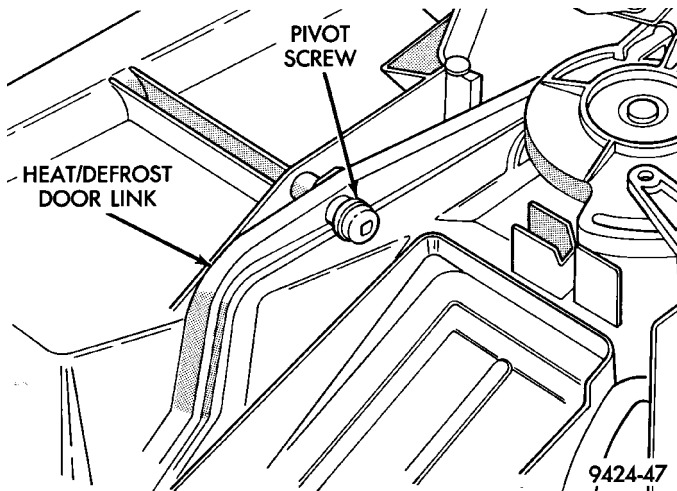

Fig. 54 Pivot Screw Removal
(10) Remove the Heat/Defrost link pivot screw (Fig. 54).
(11) Lift the Heat/Defrost link and the door as an assembly. Then separate the link from the door.